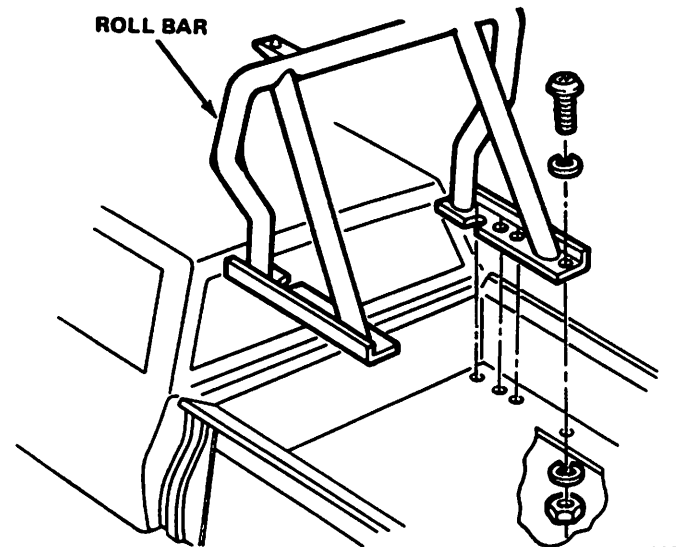

Fig. 3F-28 Roll Bar—Sport Truck
- (1) Remove CB radio antenna from roll bar, if equipped.
- (2) Remove wooden side rails, if equipped.
- (3) Remove nuts, washers and bolts attaching roll bar to bed of pickup box, using Torx Bit Tool J-25359-C (fig. 3F-28).